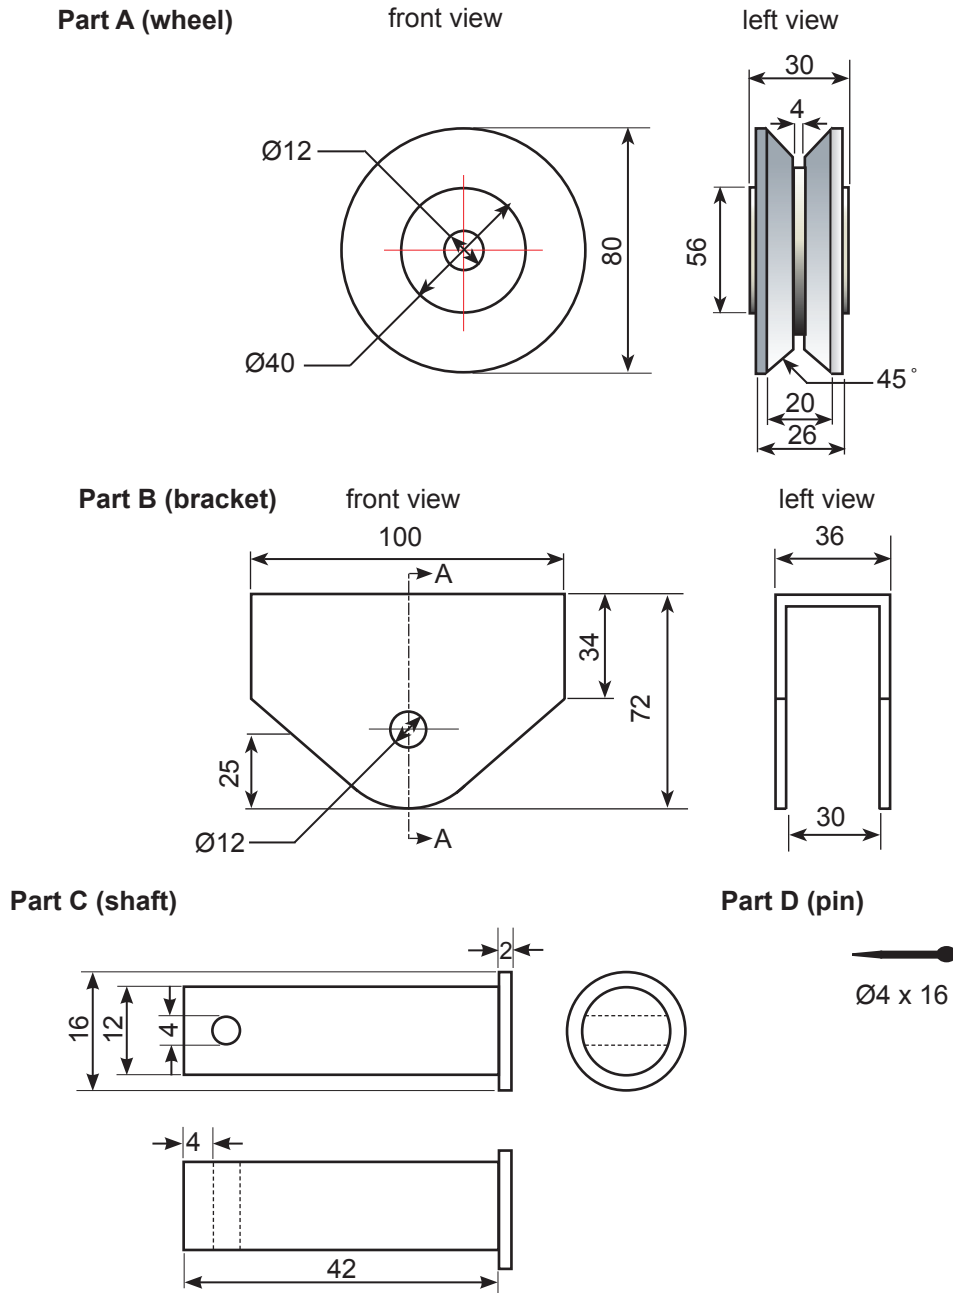

Fig. 11
Fig. 11 shows front and left view drawings with measurements of the parts of the sliding gate wheel .
Use the information in Fig. 11 to draw assembled views of the following in first angle orthographic projection to **scale 1:1**.
- (a) (i) The front view of the assembled wheel (**Part A**), bracket (**Part B**), shaft (**Part C**) and pin (**Part D**) shown in Fig. 11. All hidden detail must be shown. [10]
- (ii) The sectional left view of the wheel assembly. See the sectional line **A-A** as indicated in the front view of **Part B** in Fig.11. [10]
- (b) Make a free hand isometric drawing of **Part C**, the shaft shown in Fig. 11 to be twice the original size. [10]